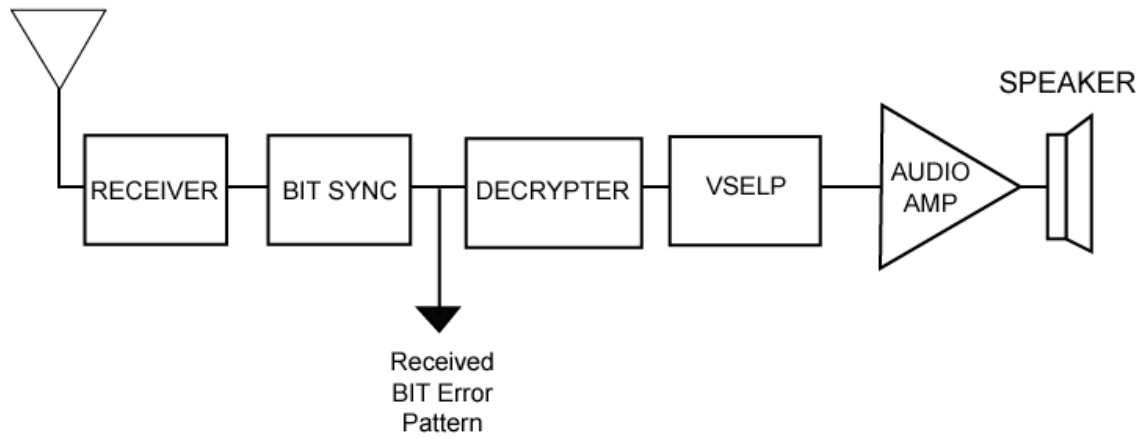

Figure 18-4. Receive BER
6. Place cursor in the "Display:" field and press **CLEAR SCOPE** softkey. The CLEAR SCOPE screen should appear similar to figure 18-4.